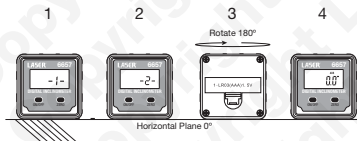

Figure 4
1. Place the 6657 Digital Inclinometer on a flat and smooth surface. Press button **B** to switch on, then press button **B** and **C** at the same time to enter the **Calibration Mode**: -1- will be displayed (refer to **Figure 4**).